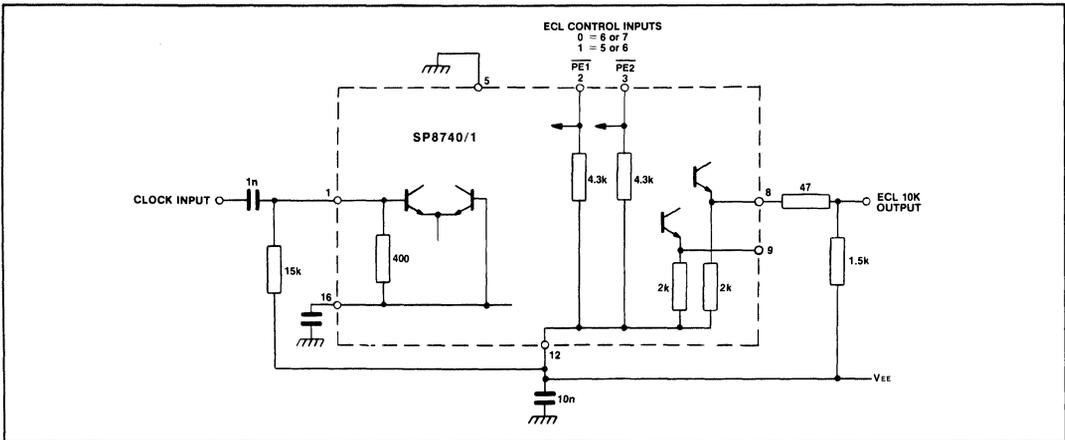

Fig.9 Typical applications circuit showing interfacing
4. The Q and  $\bar{Q}$  outputs are compatible with ECL II but can be interfaced to ECL 10K as shown in Fig. 9. There is an internal circuit equivalent to a load of 2k pull-down resistor at load output.
6. The 'A', 'B' and TTL Carry outputs are current sources and require the addition of 10k (pins 2 and 7) and 5k (pin 11) to +5V for TTL compatibility. See Fig. 6. This gives a fan-out = 1. The fan-out can be increased by buffering the output with a PNP emitter follower, see Fig. 9.